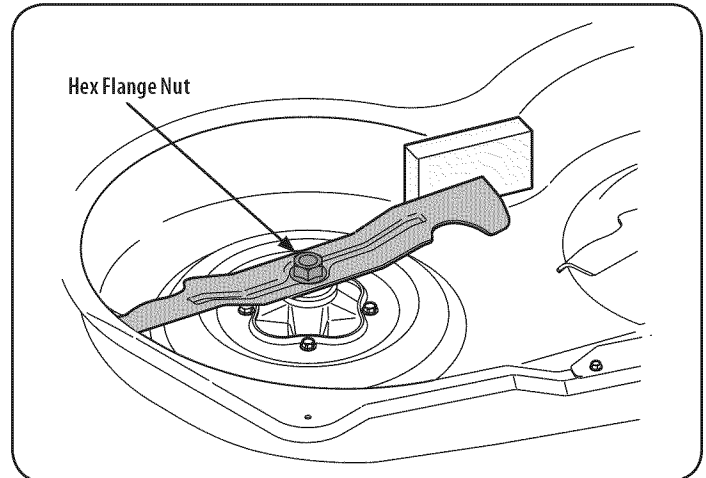

Figure 26
2. Place a block of wood between the center deck housing baffle and the cutting blade to act as a stabilizer. See Figure 26.